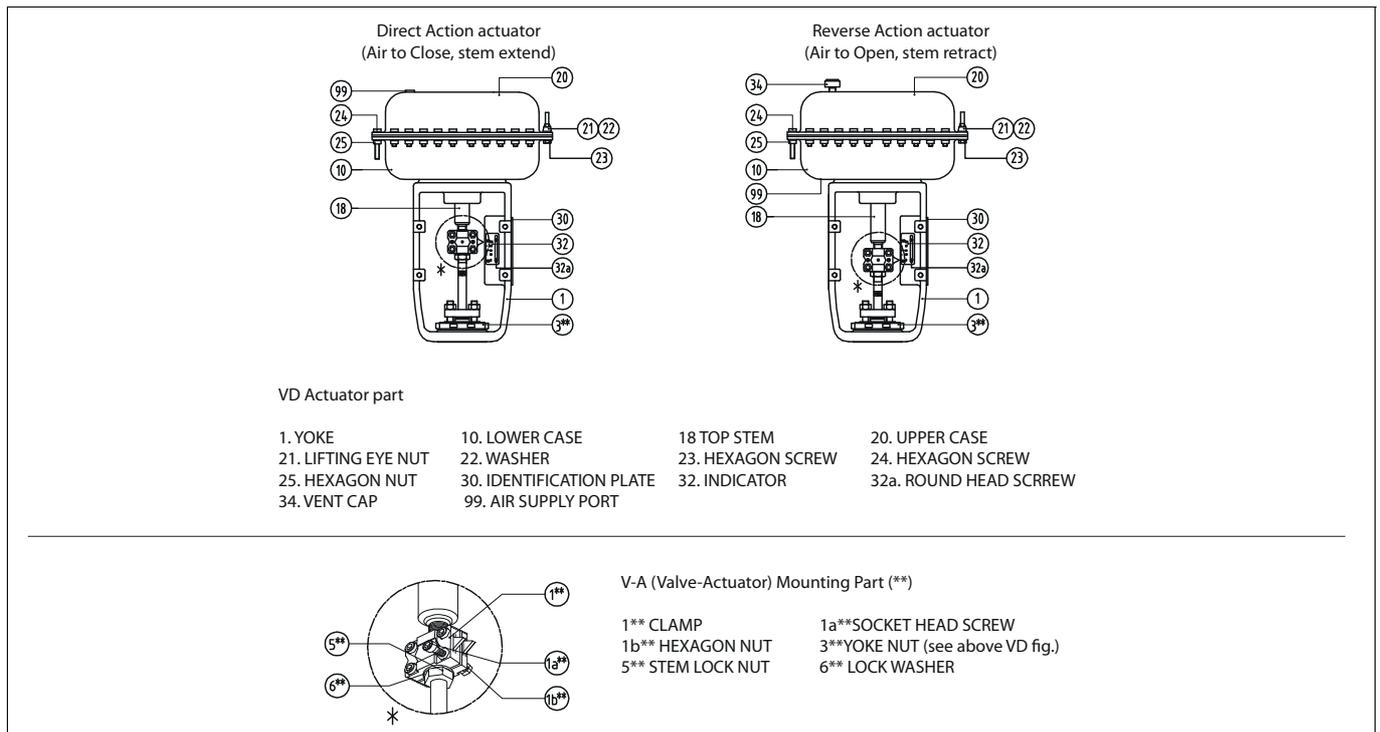

Fig. 14 VD Actuator
A. Actuator removal for Reverse <air to open, stem retract> actuator (Fig. 14)
B. Actuator removal for Direct <air to close, stem extend > actuator (Fig. 14)